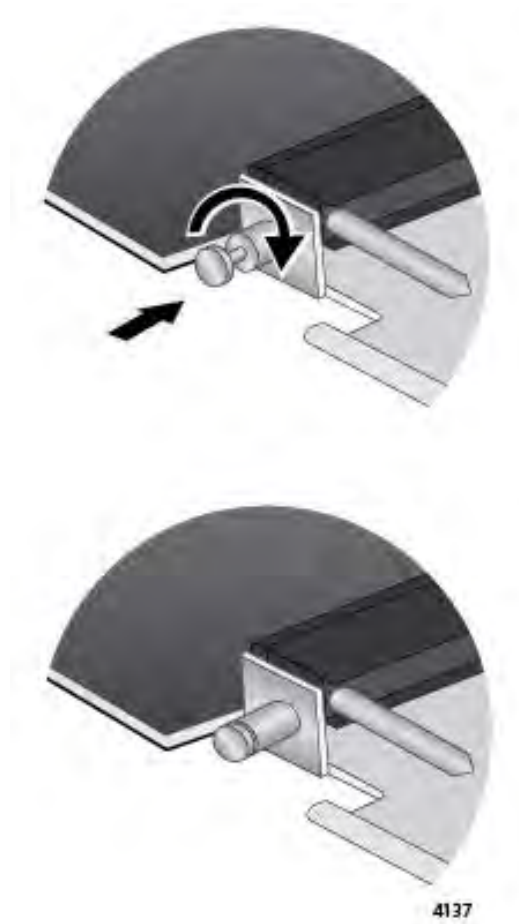

Figure 182. Releasing the Retaining Pin
11. Turn the retaining pin on the side of the card a quarter turn to release it. Refer to Figure 182 on page 285.